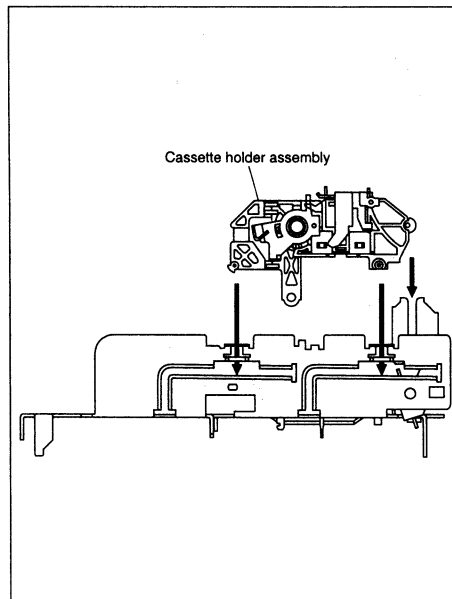
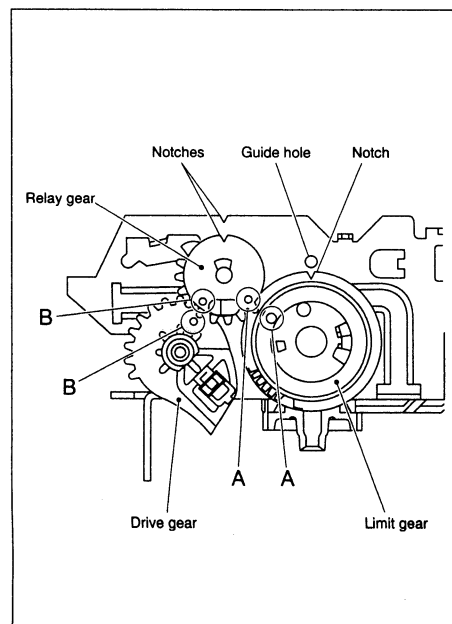

Fig. 2-2-9
Fig. 2-2-10
- (5) Drop the three legs on the left side of the cassette holder assembly into the groove at one time. (See Fig.2-2-9.)
- (6) Slide the whole cassette holder assembly toward the front to bring it to the eject end position.
- (7) Install the limit gear so that the notch on the outer circumference of the limit gear is brought into alignment with the guide hole on the main deck. (See Fig.2-2-10.)
- (8) Install so that the notch on the periphery of the relay gear is aligned with the notch of the main deck and that hole A of the relay gear is aligned with the hole B of the limit gear and that hole B of the relay gear is aligned with the hole B of the drive gear. (See Fig.2-2-10.)
- (9) Install the door opener, opener guide, spring(A) and cassette housing bracket and fasten the two slit washers.